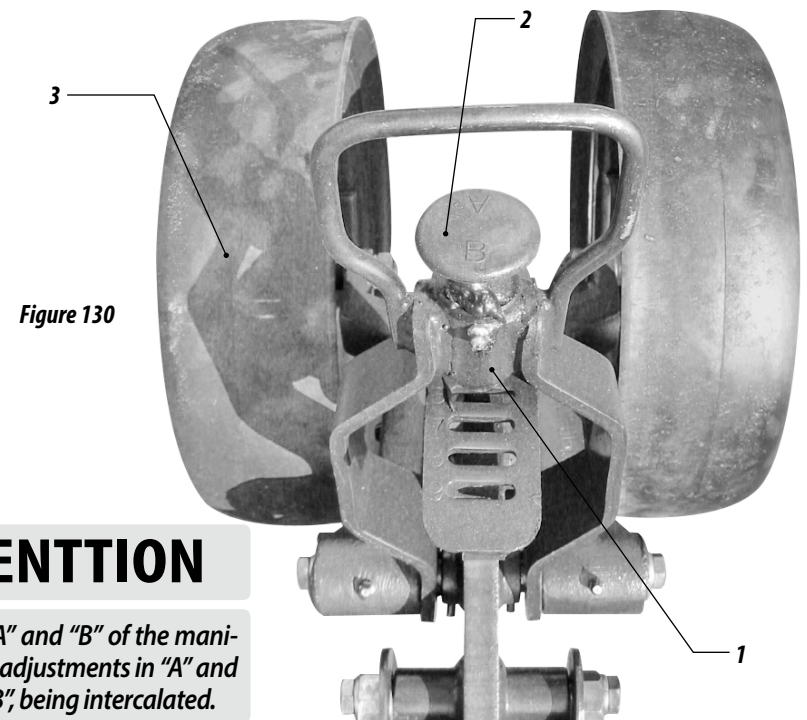

Figure 130
- 35- The depth of the seed is performed individually by the depth limiting wheels. To adjust, pull the lock pin (1) and the manipulator (2). Move the wheel (3) up to the hole of the desired depth.
- 37- The oscillating depth limiting wheels have only one point of support that enables their oscillation, and in the case of any obstacle in their path or soil irregularities, it will raise it to transpose it, immediately returning to the initial position without raising the double disc from its position, figure 130.